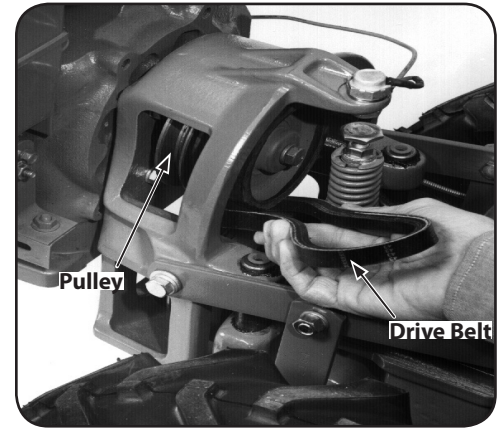

Figure 5-4
from between the pulleys. See Figure 5-4.
8. Squeeze the belt in the middle and insert one end in between the pulleys. See Figure 5-4.